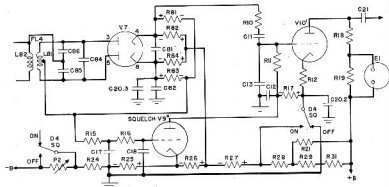

Fig. 30. Radio Receiver BC-683-A: Functional Diagram of Squelch Circuit
i. Squelch Circuit. A functional diagram of the squelch circuit is shown in Fig. 30.
When there is no input to the discriminator, no signal voltage will be built up across either R81 or R83. With no signal voltage being received, noise voltage is developed across R81 and R83. If the SQUELCH switch is at ON, the amount of noise voltage is adjustable by means of P2, and the audio-frequency amplifier V10' (Fig. 30) is then biased beyond cutoff by reason of the current (from the plate circuit of the squelch tube V9") flowing through R17. The CALL SIGNAL light is then extinguished since no current flows in the plate circuit of V10'. It will be observed that the control grid of the squelch tube is positive with respect to the cathode (grid current flow is limited by R15 and R16). The cathode is connected to the junction of R25 and